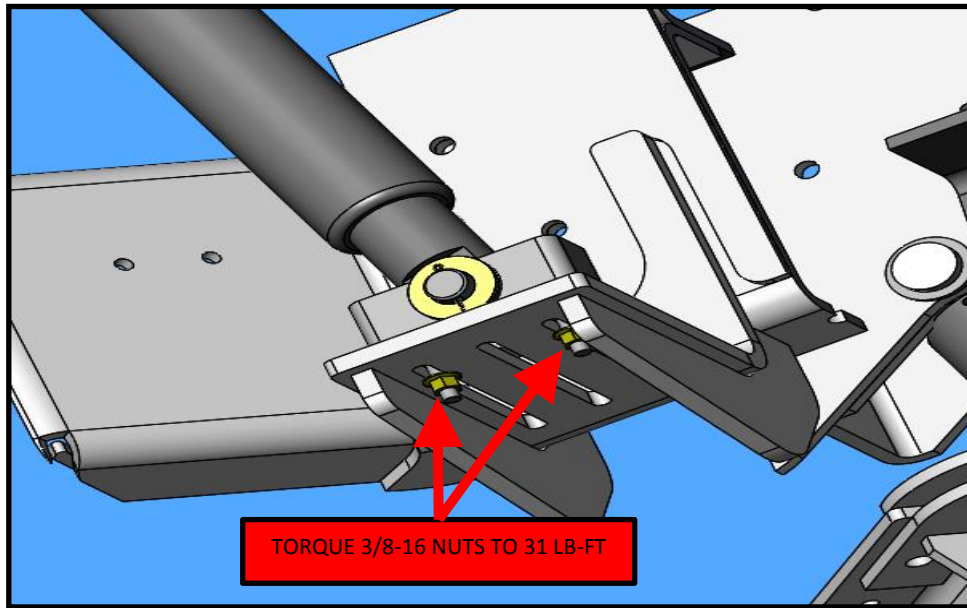

FIG. 12-1
19. Re-tighten the 3/8-16 flange nuts that were previously loosened in step 6. Making sure to torque to 31 lbf-ft. Refer to Fig 12-1.